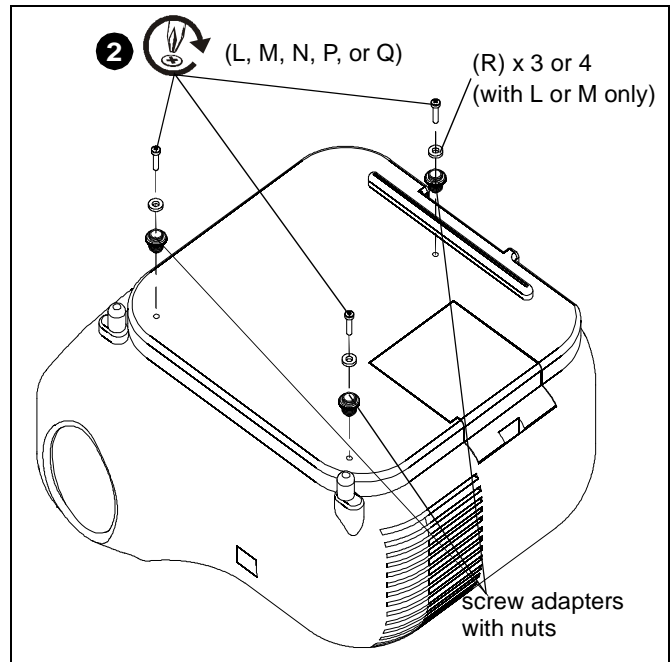

Figure 2
2. Insert screws through M4 flat washers (R), screw adapters with height-adjustable nuts and into projector holes. (See Figure 2)